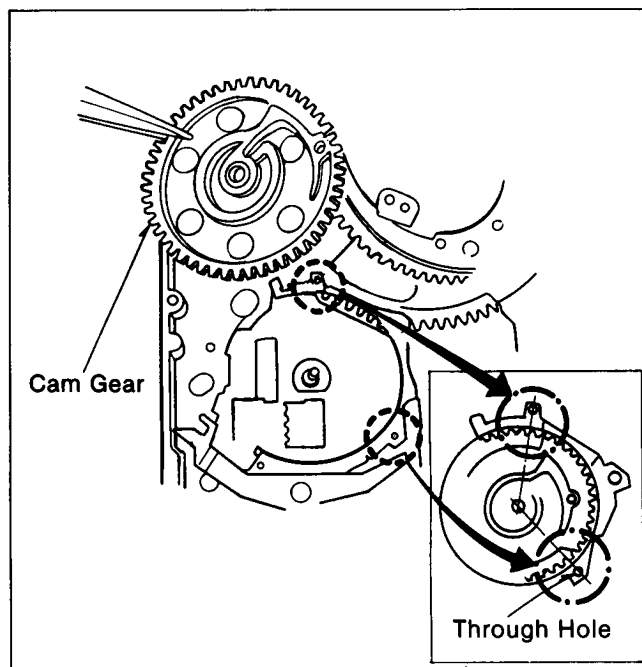

Fig. M16
- (1) Install Cam Gear as shown in Fig.M16. Put the washer.